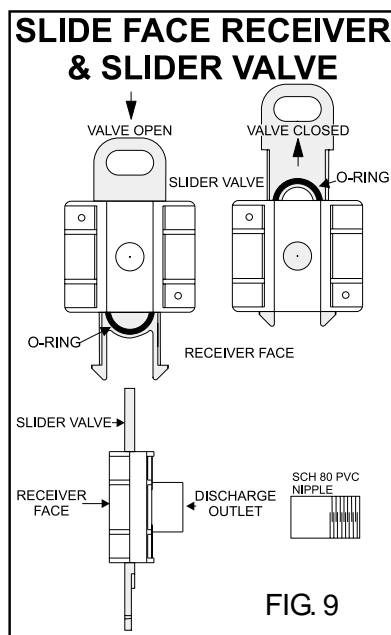

FIG. 9
12. Rotate discharge hose and male adapter to create a loop or coil. Slide male adapter into slide face receiver until it seats. Push down on slider valve assembly to open. (Fig. 9)